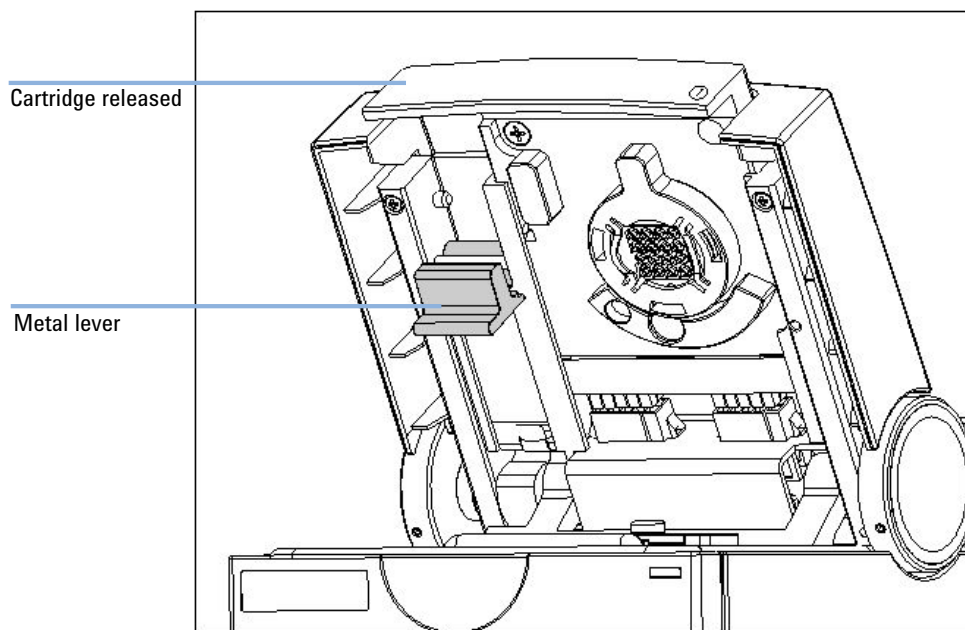

Figure 1 Remove/replace the electrode cartridge
- 2 Open the lid and pull the metal lever on the inside left of the lid to the vertical position as shown in Figure 1 on page 122. When the lever is in the vertical position, the cartridge is released from the lid by about 10 mm.
- 3 Gently pull the cartridge out of the lid as shown in Figure 1 on page 122.
- 12 Slide the electrode cartridge with the pin set into the 2100 Bioanalyzer instrument lid as shown in Figure 1 on page 122 and move the metal lever to the flat (closed) position.
- 13 Push the metal front of the electrode cartridge to ensure a tight connection to the 2100 Bioanalyzer instrument, see Figure 1 on page 122.